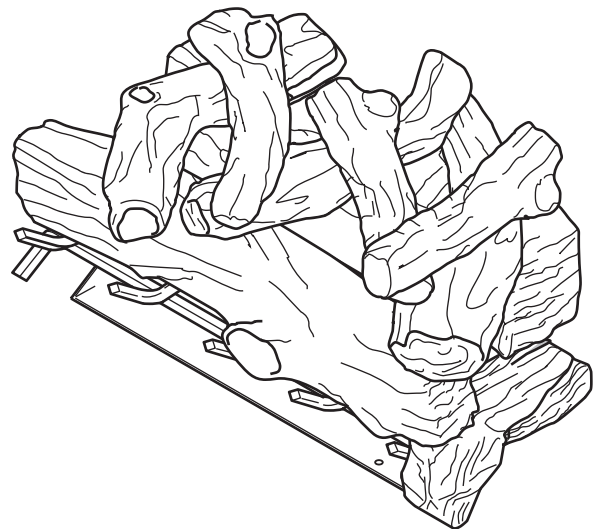

**Figure 18 - VWF18AO, VWF24AO and VWF30AO
1. Place Back Log #1 on grate bars on back of grate. *See Figure 18.*
2. Place Front Log #2 on front of grate. *See Figure 18.*
3. Position Right Log #3 on top right of Log #1 and Log #2. Make sure back of Log #3 fits in right groove in top of Log #1. *See Figure 18.*
4. Place Left Log #4 on top left of Log #1 and Log #2. Make sure back of Log #4 fits in left groove in top of Log #1. *See Figure 18.*
5. Rest Top Right Log #5 on Log # 3 and Log #2. *See Figure 18.*
6. Rest Top Left Log #6 on Log #4 and Log #2. *See Figure 18.*
7. Place Log #7 on Log #2 and Log #5. *See Figure 18.*